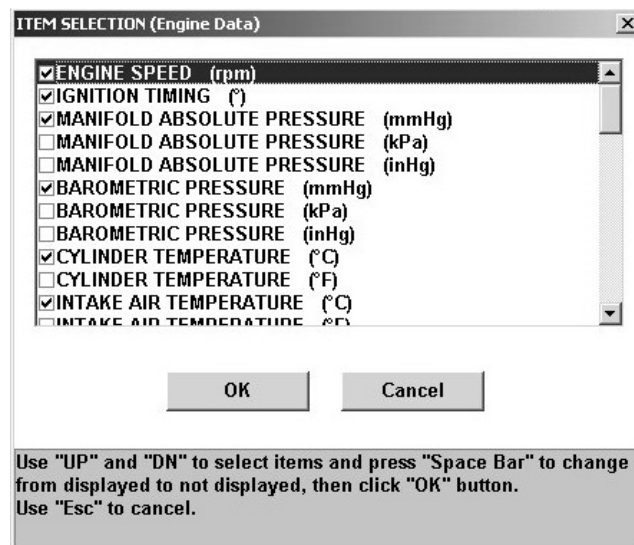

Fig.51
4. The ITEM SELECTION (Engine Data) dialog box (Fig.51) appears.